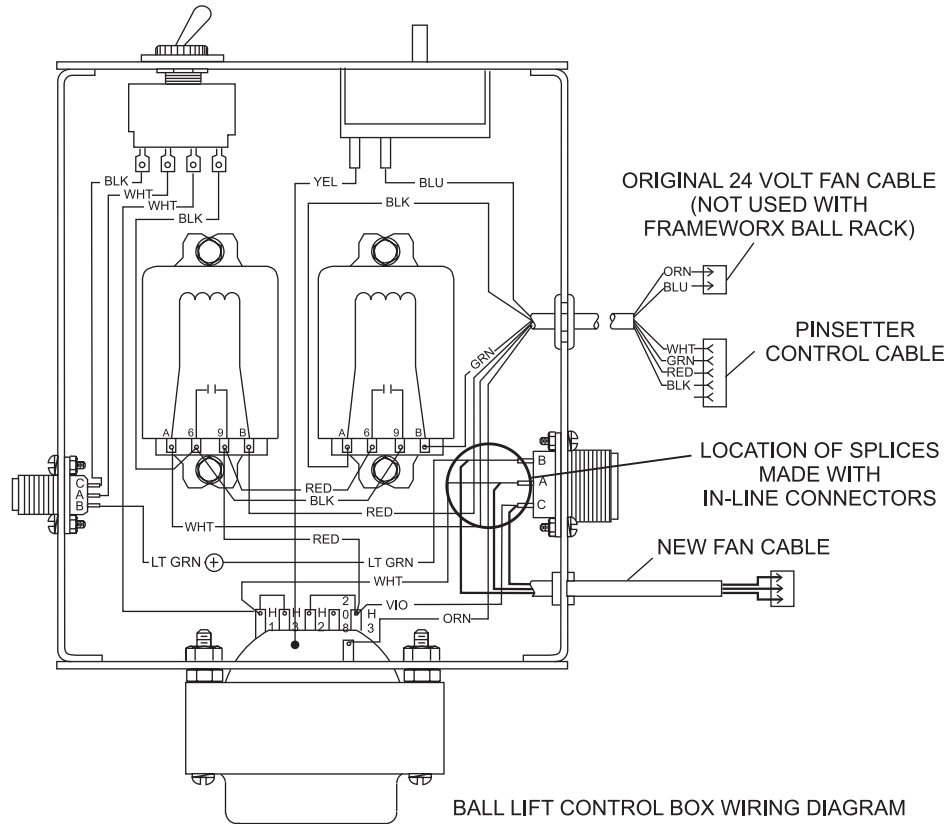

Figure 2
4. Using the three in-line connectors, splice the three fan cable wires into the three wires of the ball lift motor connector: Refer to *Figure 2*.